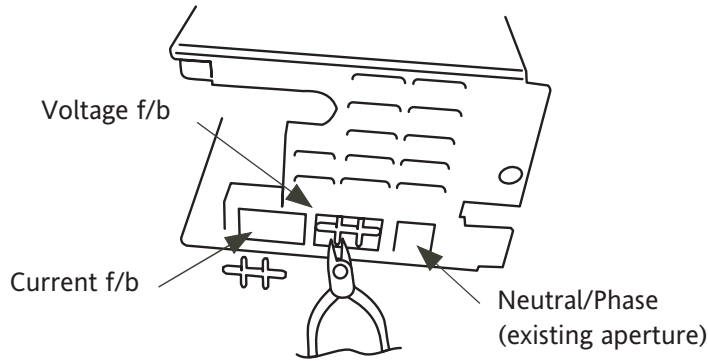

Figure 3.7 External feedback connector apertures
3. Before the replacement is fitted it is necessary to create apertures in the housing to accommodate the voltage and current feedback connectors. This is done by 'breaking out' the relevant areas of the housing, as shown in figure 3.7, below. A pair of side cutters is an appropriate tool (as shown).